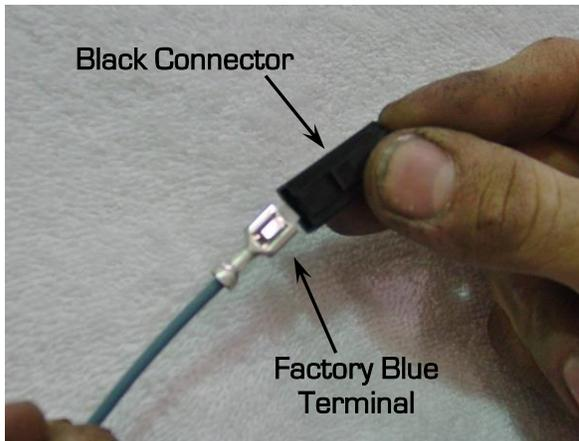
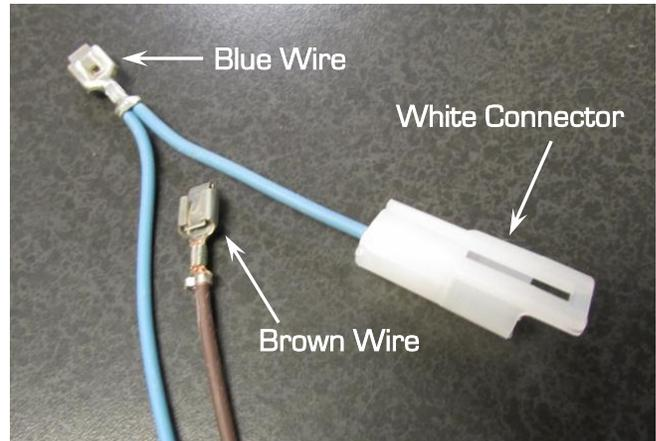

Figure 8 - Install Black Connector
Figure 9 - Harness Assembly
- Slide the included black male connector over the blue wire terminal which was just removed from the headlight harness connector (Figure 8). Connect the stock blue wire to the white female connector (blue wire) on the harness assembly (Figure 9).
- Now, locate the blue and brown wires on the supplied harness assembly. Slide the blue wire/female terminal (Figure 8 above) into the cavity in the headlight switch connector where you removed the stock blue wire. Slide the female terminal on the brown wire (Figure 9 above) into the empty cavity shown in the picture (Figure 10).